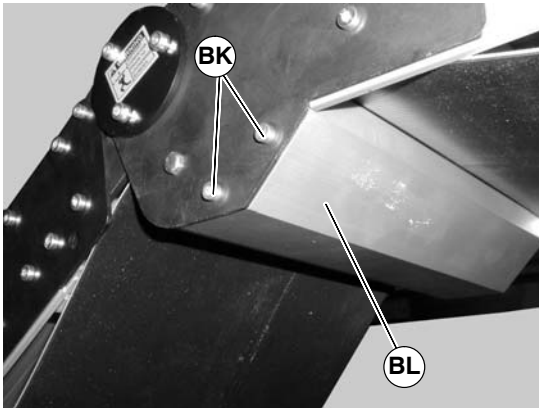

Figure 32
12. Remove screws (BK of Figure 32) on both sides of knuckle and remove guard (BL).